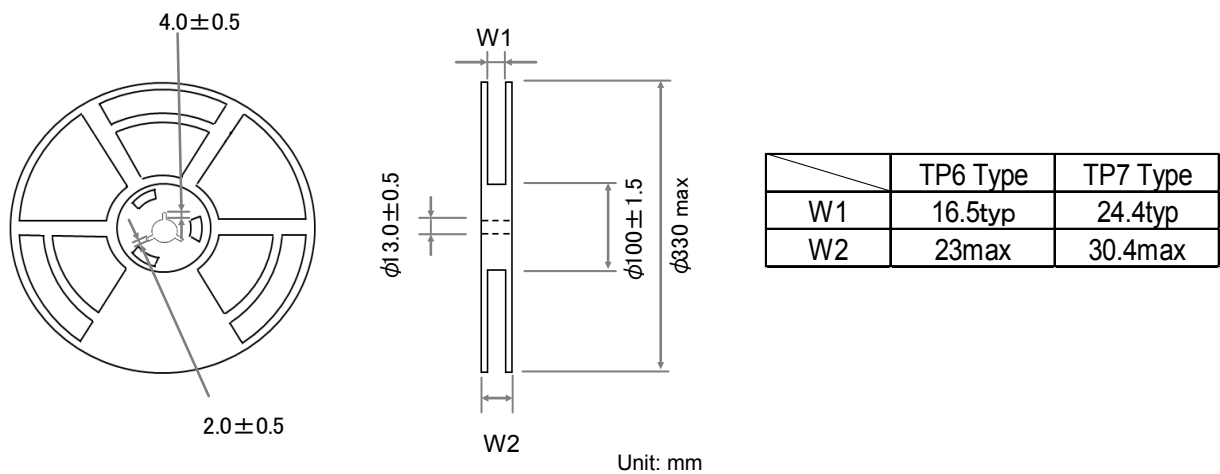

Figure 4 Reel Forms
- Dimensions: The reel dimensions are as shown in Figure 4.